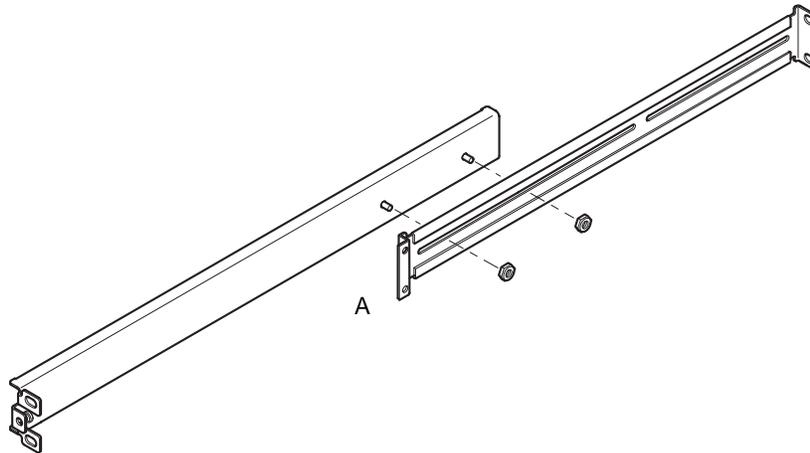

FIGURE 2-8 Positioning the Slide Mounts for a Standard 19-inch Wide Rack
For a standard 19-inch wide rack, the double-angled end (A) must be at the front (see FIGURE 2-8).